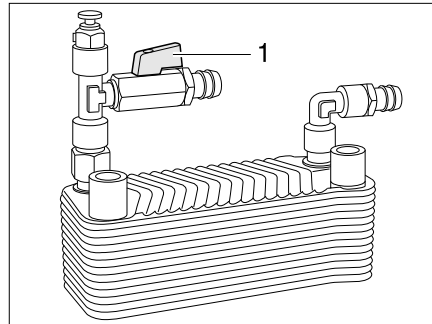

Fig. 310 Alde heat exchanger
- Turning on:* ■ Set stopcock handle (Fig. 310,1) parallel to the pipe.
- Shutting off:* ■ Set drain cock handle (Fig. 310,1) at a right angle to the pipe.